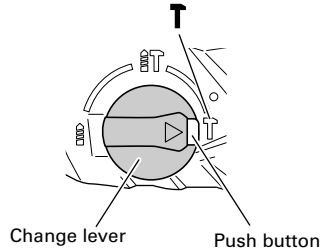

Fig. 11
This rotary hammer can be set to hammering only mode by pressing the push button and turning the change lever to the **T** mark (Fig. 11).
- (3) Turn the change lever to **T** mark (Fig. 11).